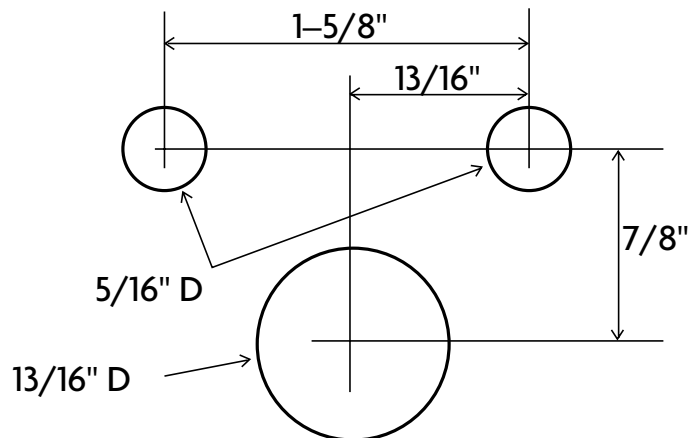

Figure 2
2. At the location selected, drill two 5/16" diameter mounting holes and one 13/16" diameter trunnion hole at the centerline dimensions shown in Figure 2.